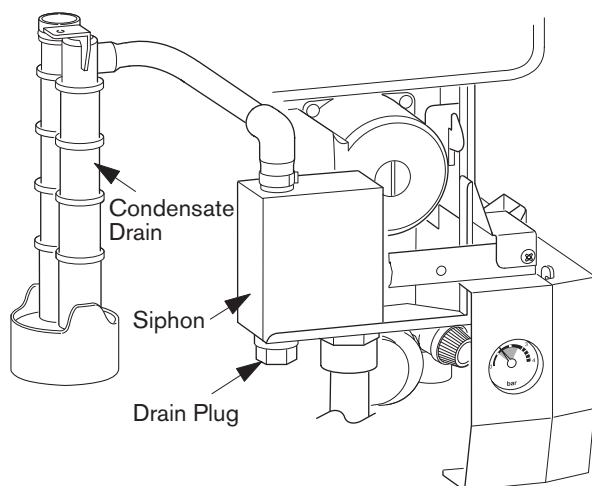

Fig. 56
- ▶ Unscrew and remove the siphon by releasing the jubilee clip. Refer to fig. 56.